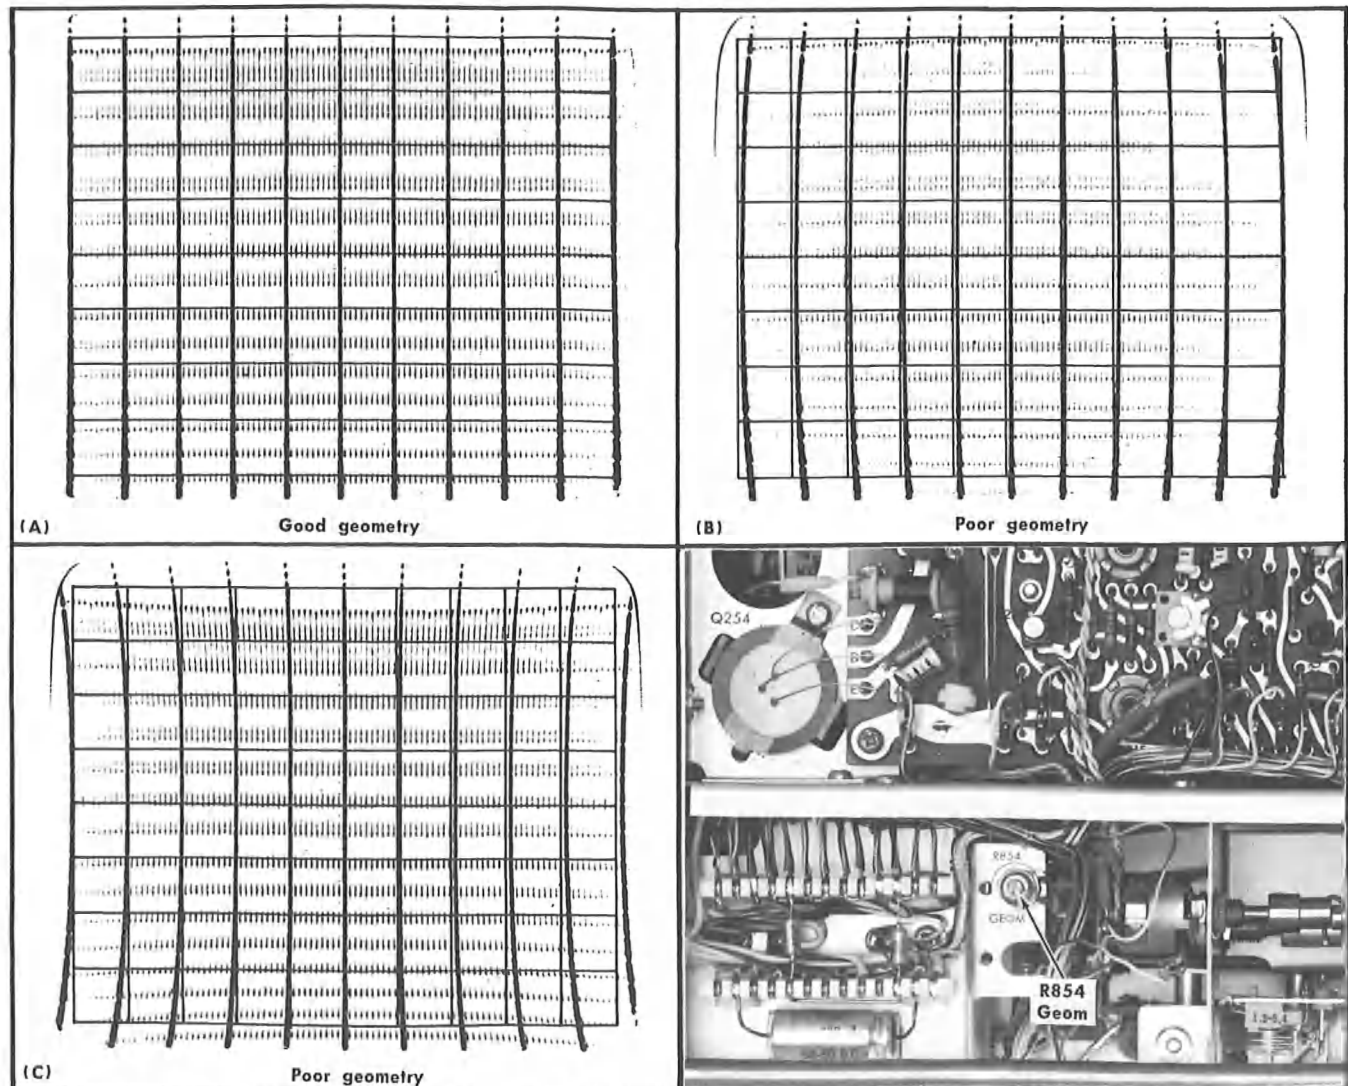

Fig. 5-11. (A) Typical CRT display of good geometry, (B) and (C) poor geometry, (D) location of Geom adjustment (left side).
- b. CHECK—CRT display for 0.1 division or less bowing of the markers at the left and right edges of the graticule. Fig. 5-11 shows a typical display with good geometry as well as examples of poor geometry.